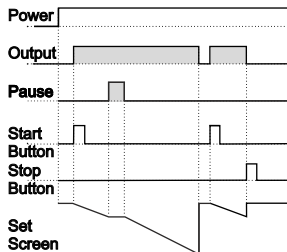

Figure 1.1
1.1.1 If downcount $\boxed{DEC}$ = 1 and $\boxed{OUT}$ is $\boxed{ON}$ the control diagram is shown in Figure 1.1